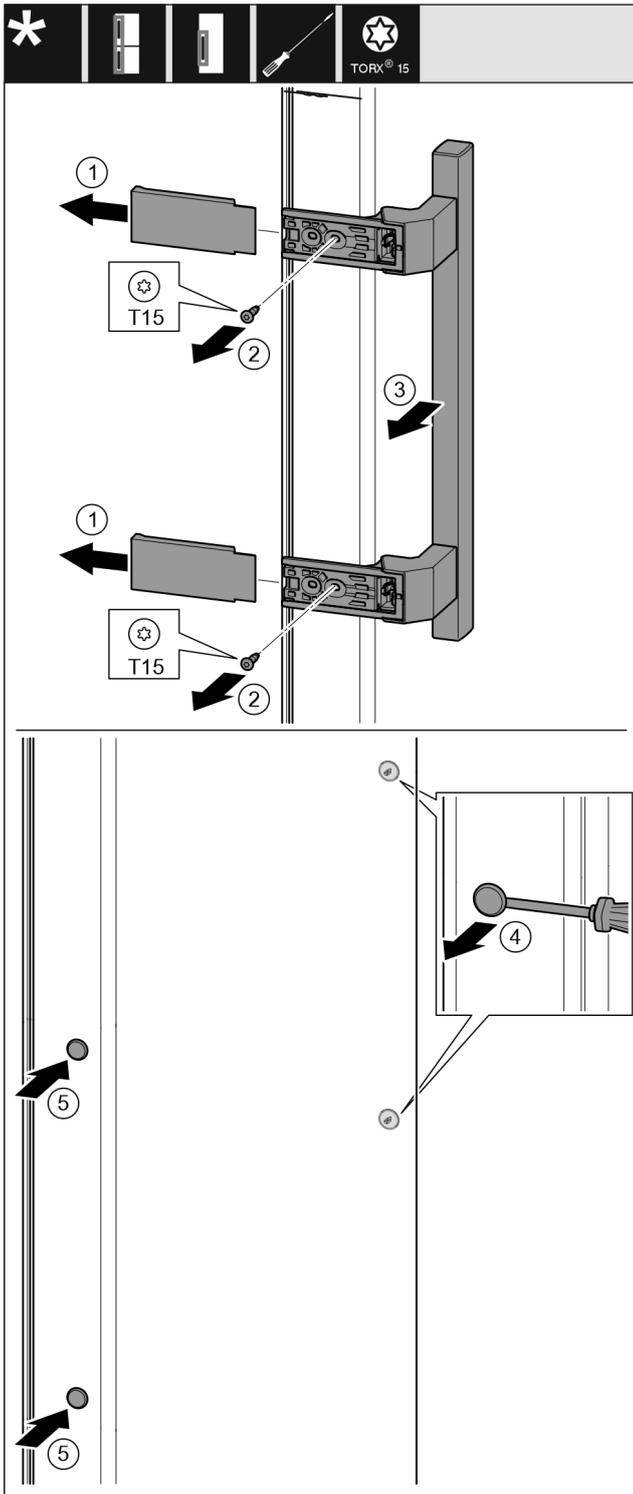

Fig. 20
- ▶ Pull off the cover. Fig. 20 (1)
- ▶ Remove the screws with a T15 screwdriver. Fig. 20 (2)
- ▶ Take off the handle. Fig. 20 (3)
- ▶ Carefully lift up the side plugs with a slotted screwdriver and pull them out. Fig. 20 (4)
- ▶ Insert the plugs again on the other side. Fig. 20 (5)